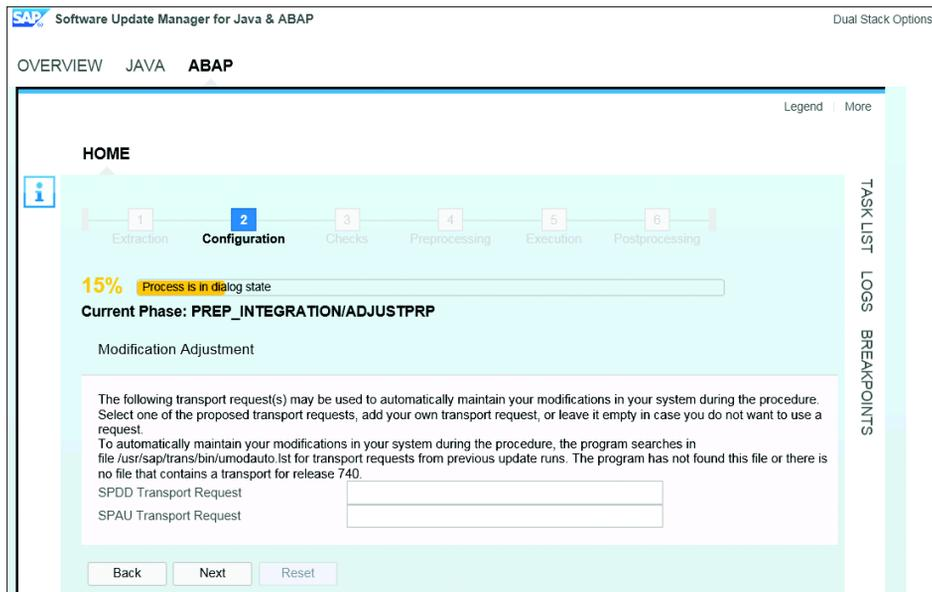

Figure 52 Modification Adjustment
9. The CONFLICT_CHECK task can take up to three hours without generating any logs in SUM. If it runs for more than six hours, try stopping SAP and restarting the host, then restart SAP and SUM and let it run again. The Modification Adjustment task allows you to provide a transport that contains SPAU adjustments that were made in the development solution manager. If you are upgrading production, enter the transport request; if you don't have a transport, then leave the field blank and click NEXT (see Figure 52).